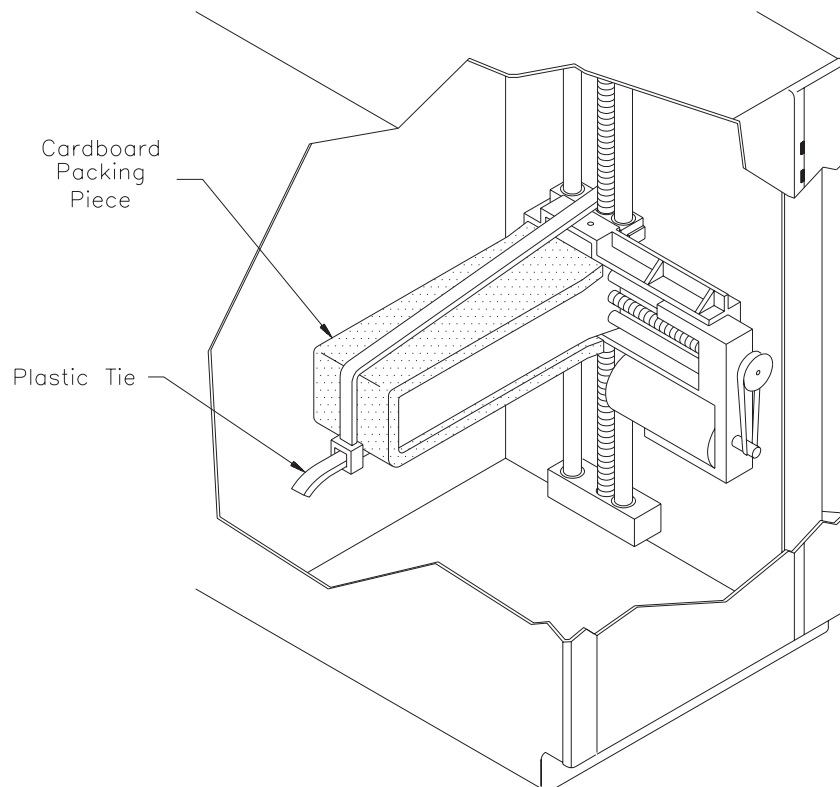

Figure 3-1 Packing piece secured on the grab base
1. Open the EXB-10i's front door and locate the cardboard packing piece and plastic tie that secures the grab base, as shown in Figure 3-1.